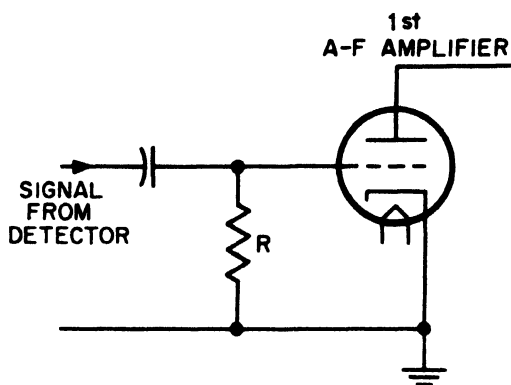

Fig. 20-5. Contact-bias circuit.
**Contact Bias.** There is still another method for obtaining grid bias which frequently is used in the first stage of audio-frequency amplification. This is the *contact-bias* method illustrated in the circuit shown in Figure 20-5.